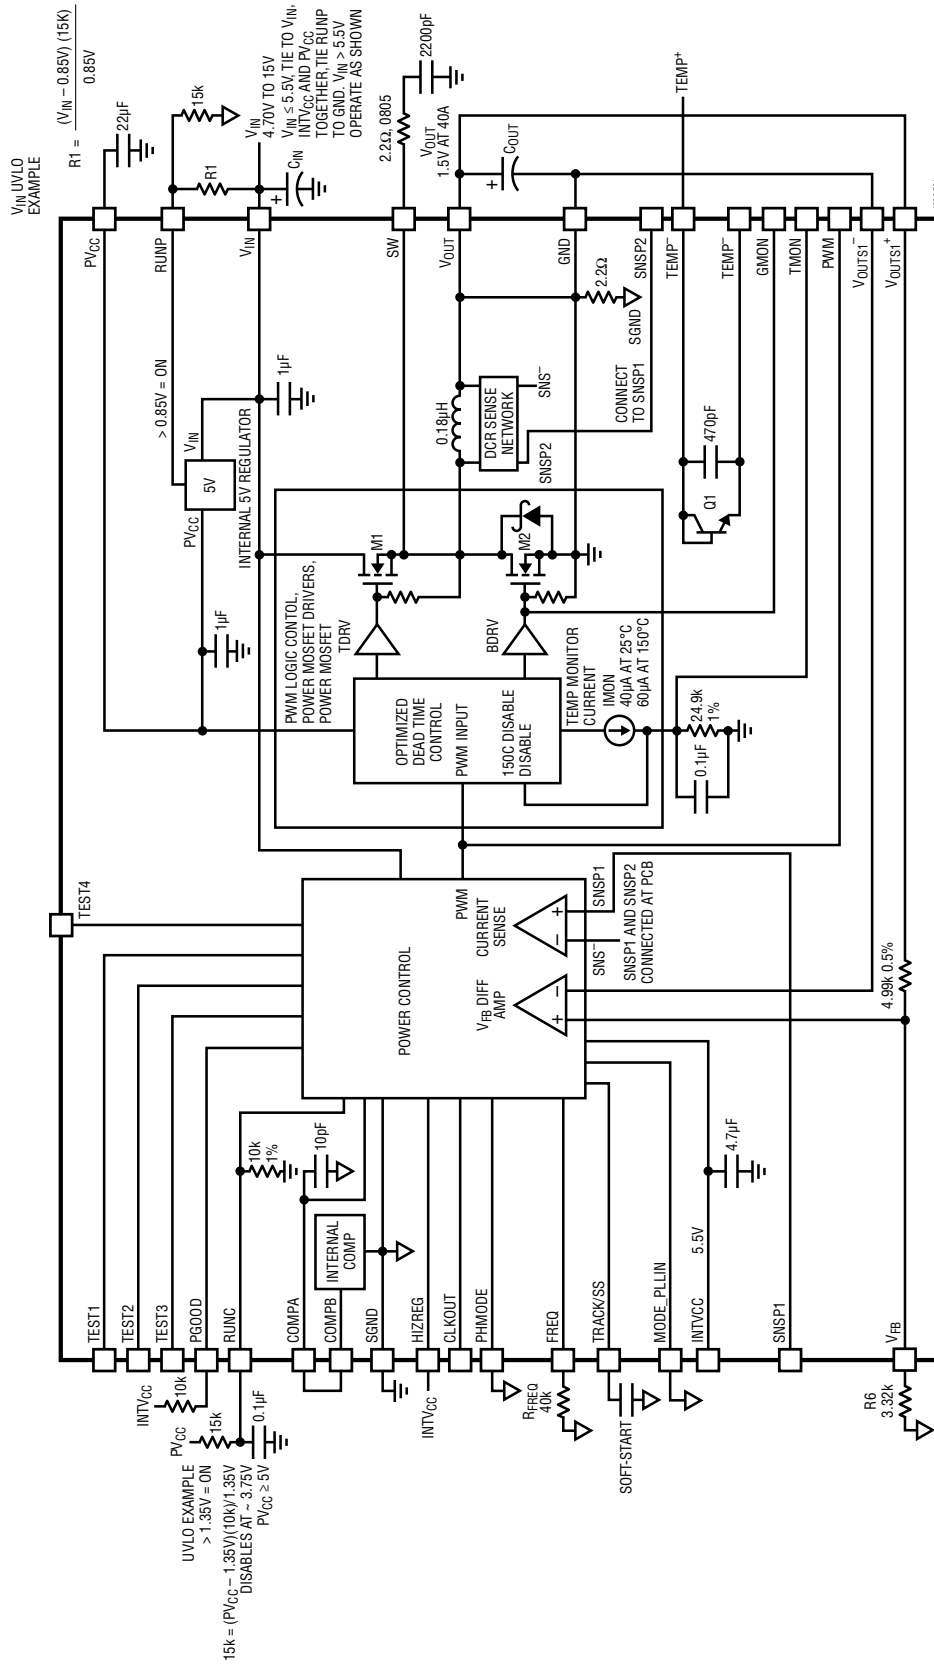

Figure 1. Simplified LTM4636 Block Diagram
**RUNC (E2):** Run Control Pin. A voltage above 1.35V will turn on the control section of the module. A 10k resistor to ground is internal to the module for setting the RUN pin threshold with a resistor to 5V, and allowing a pull-up resistor to PVCC for enabling the device. See Figure 1 Block Diagram.
**RUNP (G8):** This pin enables the PVCC supply. This pin can be connected to VIN, or tie to ground when connecting PVCC to  $V_{IN} \leq 5.5V$ . RUNP needs to sequence up before RUNC. A 15k resistor from PVCC to RUNC with a 0.1 $\mu$ F capacitor will provide enough delay. In parallel operation with multiple LTM4636s, the resistor can be reduced in value by N times and the 0.1 $\mu$ F can be increased N times. See Applications Information section. RUNP can be used to set the minimum UVLO with a voltage divider. See Figure 1.
**DECOUPLING REQUIREMENTS**  $T_A = 25^\circ\text{C}$ . Use Figure 1 configuration.